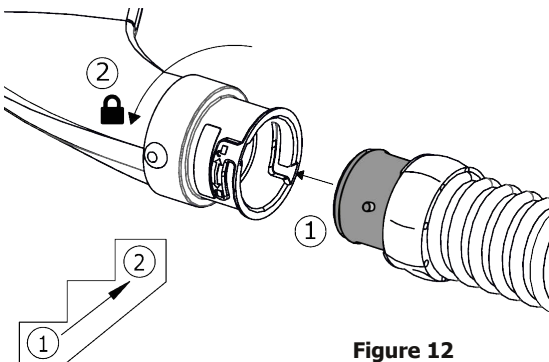

Figure 12
1. Install and lock the breathing tube onto the airduct of the headtop (Fig. 12).